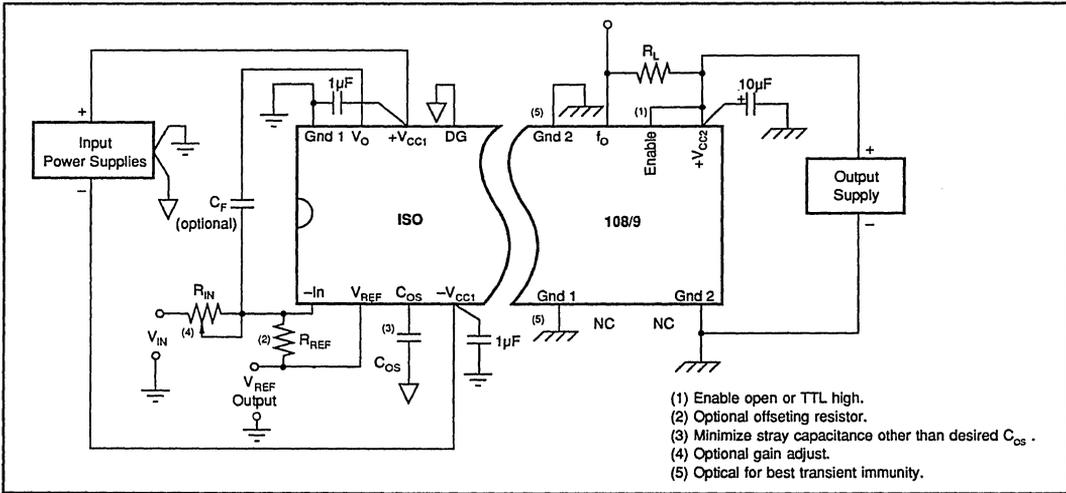

FIGURE 2. ISO108/109 Connection Diagram.
External connections to the ISO108 and ISO109 are made as shown in Figure 2. The transfer function of the VFC is f_O [MHz] = $(200\text{pF})(40\text{k})/(C_{OS} + 50\text{pF})(R_{IN})$. For a 10V full scale input, $R_{IN} = 40\text{k}\Omega$ for optimum performance; adjustment of C_{OS} then determines full-scale frequency as shown in performance curve Output Pulse Width and Full-Scale Frequency vs External One-Shot Capacitance. The fullscale frequency is typically 3MHz with $C_{OS} = 0\text{pF}$.
Figure 2, Note (2) shows a use of the reference voltage output to offset the input of the ISOVFC so that bipolar inputs can be accepted. Buried zener reference circuitry is used for low noise and excellent temperature drift. Output current is specified to 10mA and current-limited to approximately 20mA. Excessive or variable loads on V_{REF} can decrease frequency stability due to internal heating. Low level input signals should be amplified before the ISOVFC.